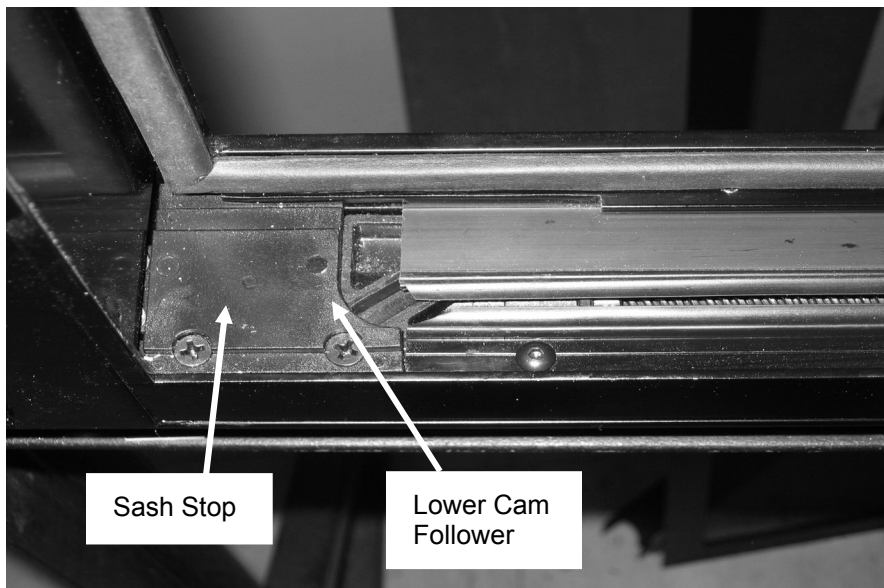

FIGURE 24: PROPER ALIGNMENT
1. Align the leading edge of the slot on the lower cam follower block with the sash stop. Use the power toggle switch to obtain the correct alignment. (Figure 24)